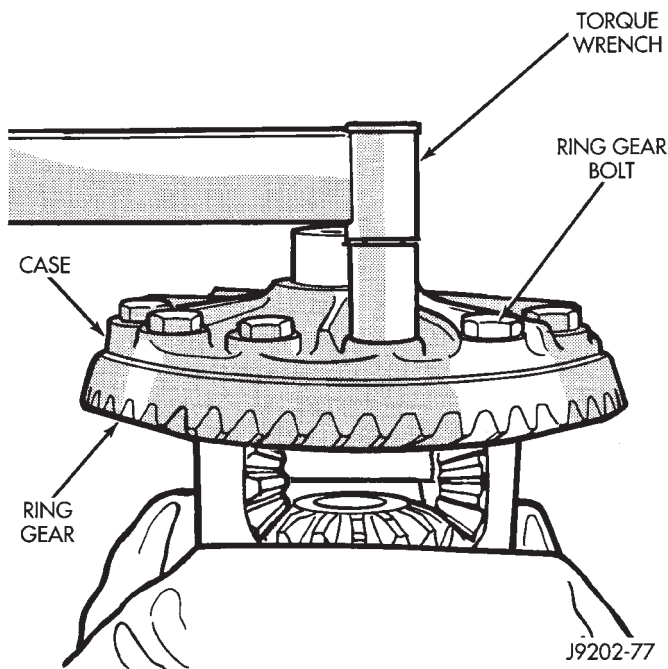

Fig. 40 Ring Gear Bolt Installation
(3) Invert the differential case and start two ring gear bolts. This will provide case-to-ring gear bolt hole alignment.
(4) Install new ring gear bolts and alternately tighten to 61-81 N•m (45-60 ft. lbs.) torque (Fig. 40).
(5) Lubricate all differential components with a light coat of grease or hypoid gear lubricant.